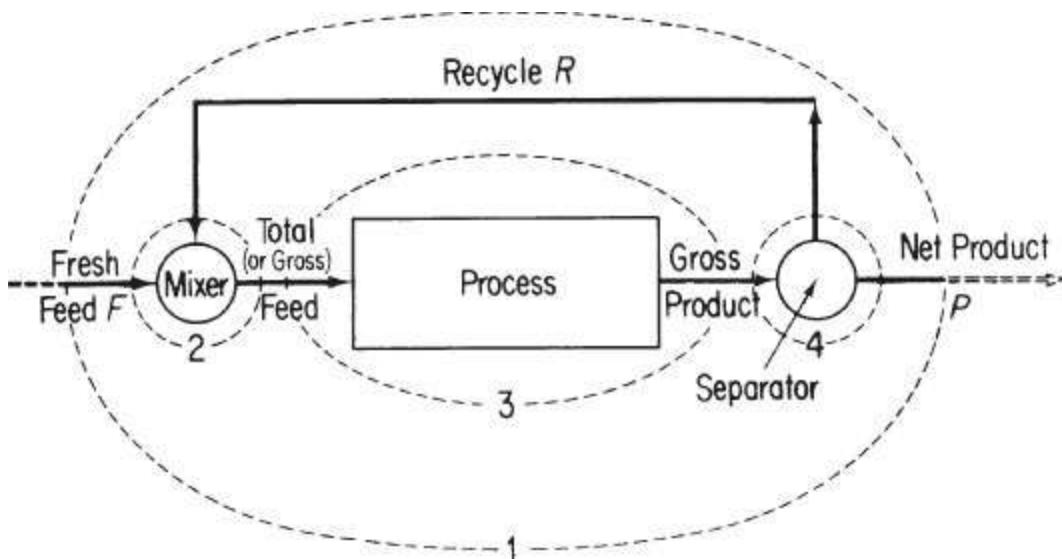

Figure 6.6. Process with recycle. The numbers and dashed lines designate possible system boundaries for the material balances—see the text.
You can formulate material balances for recycle systems without reaction using the same strategy explained in Chapter 3 and applied in subsequent chapters. Examine Figure 6.6.
The main new aspect of solving problems involving recycle is picking the proper sequence of systems to analyze. You can write material balances for several different systems, four of which are shown by dashed lines in Figure 6.6, namely:
1. About the entire process including the recycle stream, as indicated by the dashed boundary identified by 1 in Figure 6.6. Such balances contain no information about the recycle stream. Note that the **fresh feed** enters the overall system, and the **overall or net product** is removed and can be used to determine the extent of reaction when the process under consideration is a reactor and the reactions are known. You can also employ element balances as explained in Chapter 5.
2. About the junction point at which the fresh feed is combined with the recycle stream (identified by 2 in Figure 6.6).
3. About the process itself (identified by 3 in Figure 6.6). Note that the **process feed** enters the process and the **gross product** is removed.
4. About the separator at which the gross product is separated into recycle and overall (net) product (identified by 4 in Figure 6.6).
Note that in Figure 6.6, the recycle stream is associated both with the mixer, which is located at the beginning of the process, and with the separator, which is located at the end of the process. As a result, recycle problems lead to coupled equations that have to be solved simultaneously. You will find that overall material balances (1 in Figure 6.6), particularly with a tie component, are usually a good place to start when solving recycle problems. If you solve an overall material balance(s), and are successful—that is, you are able to calculate all or some of the unknowns by using the overall balance—the rest of the problem can usually be solved by sequentially applying single-unit material balances traversing sequentially through the process. Otherwise, you must write a number of material